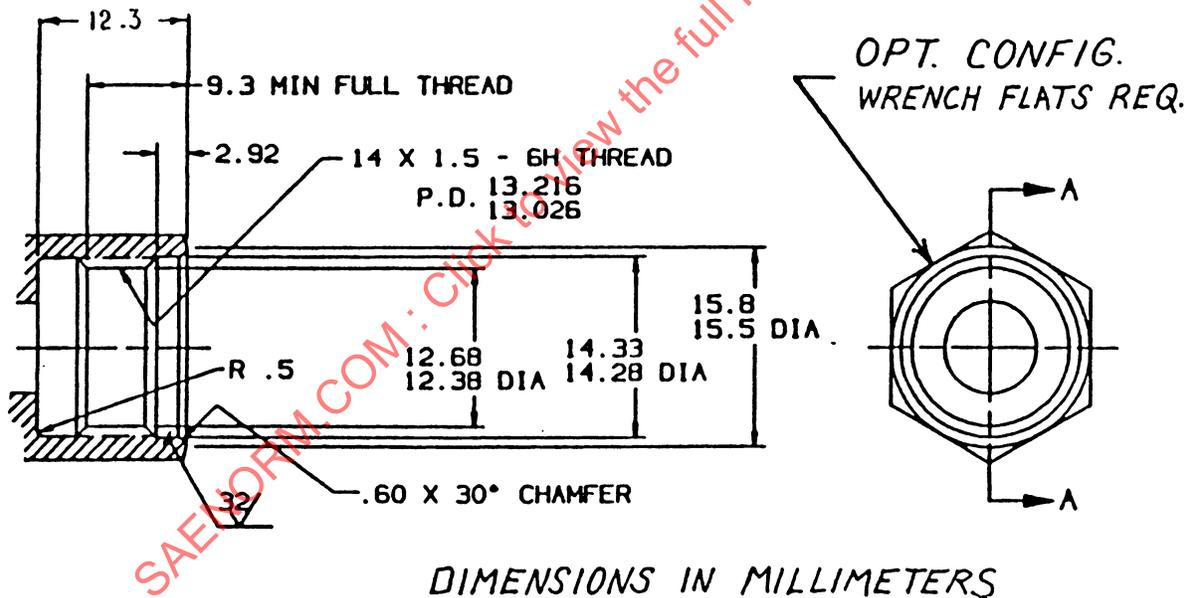

FIGURE 4—SAE SPUD R-134a SERVICE ADAPTER
- 4.7 High- and low-pressure charge couplings shall be constructed with an internal, M14 x 1.5-6H right-hand thread connection as an option to attaching the hose assembly with a nonserviceable connection. (Figure 4)